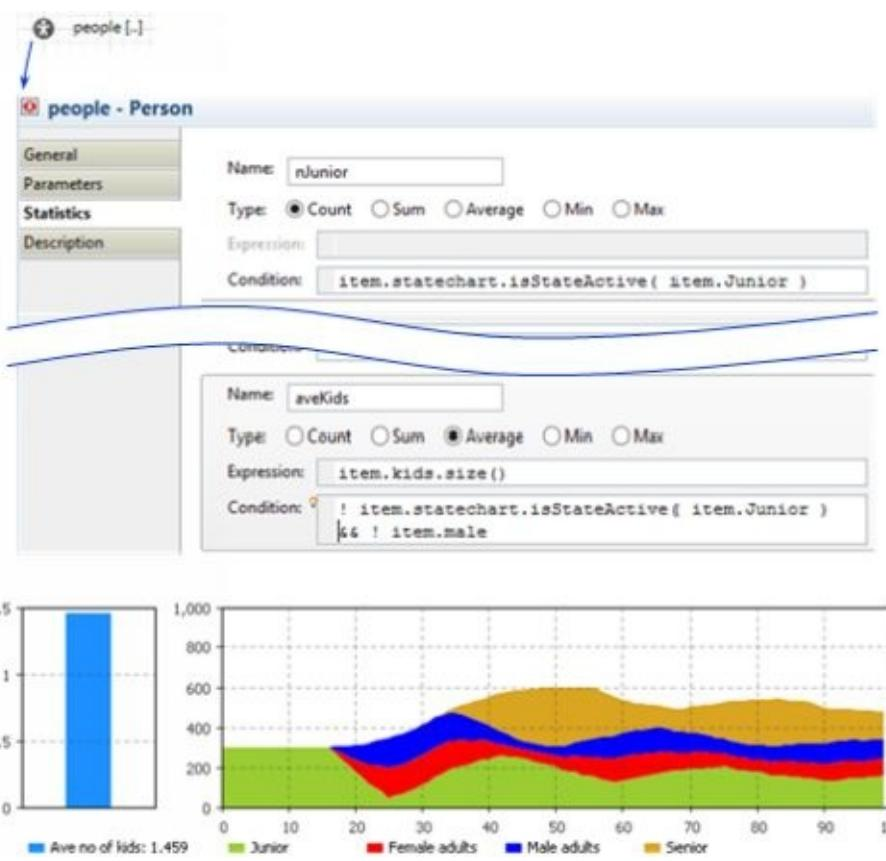

Figure 3.49 Standard statistics in the Kinship model
8. Run the model. Now the statistics are much more informative, see Figure 3.49.